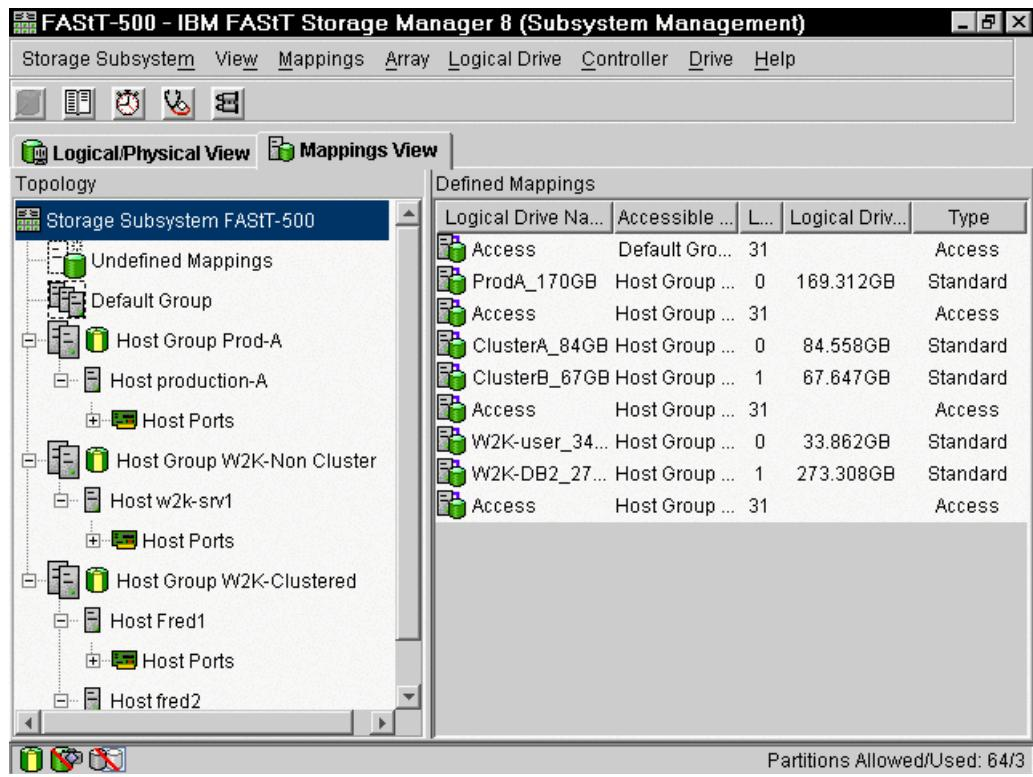

Figure 7-18 Mappings View after the update
7. Click the **Mappings View** tab and see if the LUN mappings stayed the same (Figure 7-18).